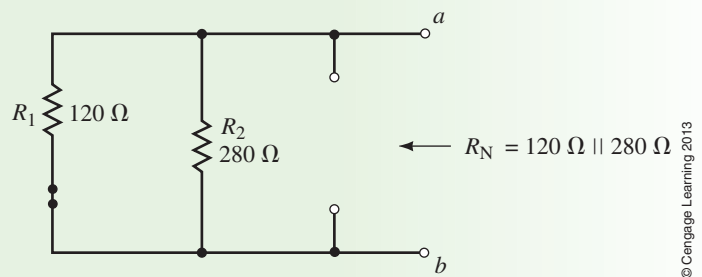

FIGURE 9-40
Step 3: After zeroing the sources, we have the network shown in Figure 9-40.